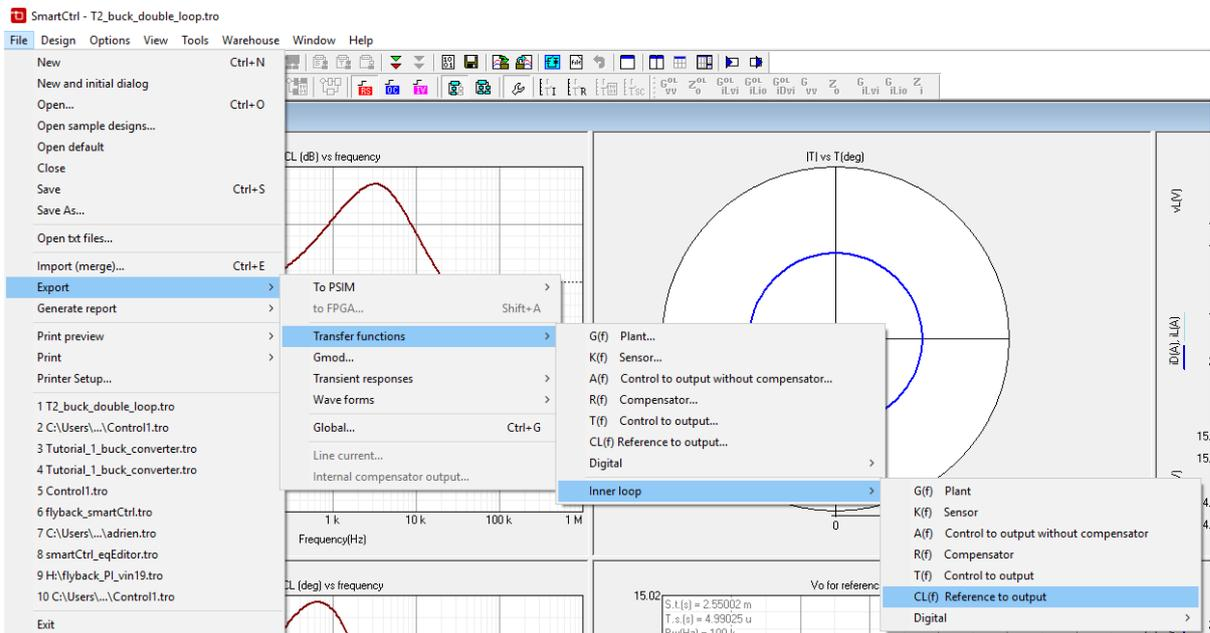
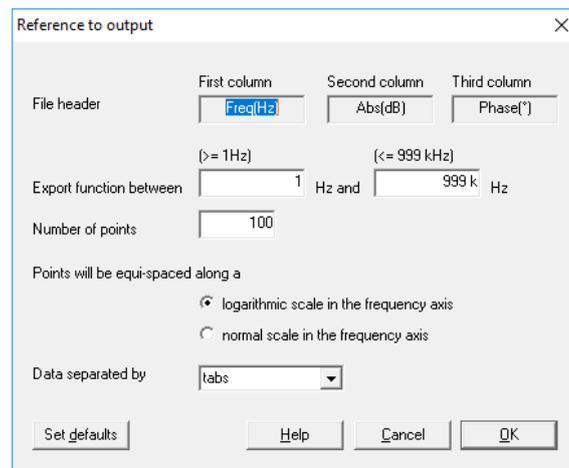

Figure 29: Exporting inner current close loop transfer function plotted
Figure 30: Transfer function exporting options
4. Use the menu **File -> Transfer function -> inner loop -> CL(f) Reference to output**. See Figure 29. And configure the outputs according Figure 30.